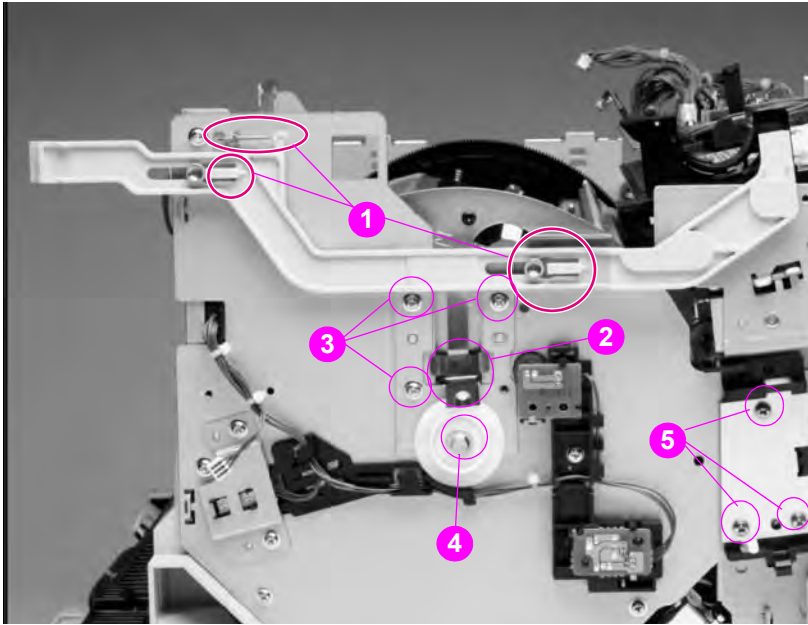

Figure 6-66 Cartridge carousel replacement - face-down delivery rod (4 of 6)
21 Remove the interlock delivery rod (see Figure 6-66, callout 1).
- 23 Remove the carousel grounding plate (see Figure 6-66, callout 2) and the carousel position plate from the carousel mounting plate (see Figure 6-66, callout 3) on the printer's right side.
- 25 Using a flat-bladed screwdriver, remove the clip securing the grounding cam and lift off the grounding cam (see Figure 6-66, callout 4).
- 26 Remove the drum bushing assembly (see Figure 6-66, callout 5).